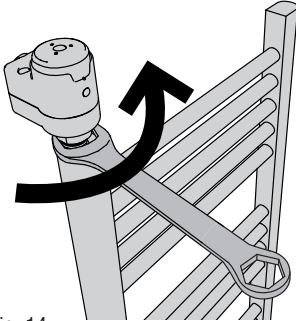

Fig. 14
3. Using a 27 mm spanner, unscrew the element, rotating it anticlockwise until the element thread is completely off from towel rail 1/2" GAS female thread (Fig. 14).